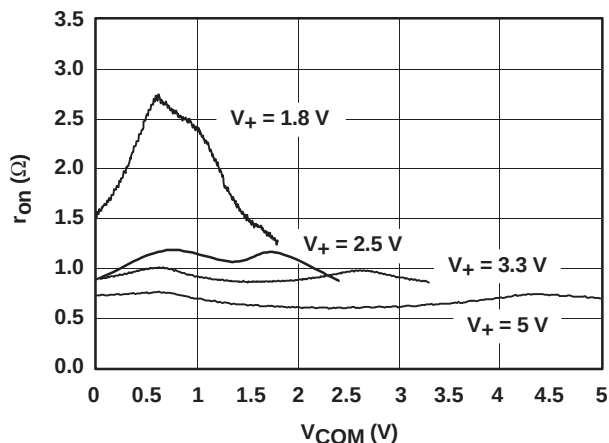

Figure 1. r_{on} vs V_{COM} ($T_A = 25^\circ\text{C}$)
Figure 1: Schematic diagram of the test setup for the 1T1C1D1S1 device. The device is shown as a square block with pins V_+ , COM, IN, NO, and GND. V_+ is connected to a positive supply. COM is connected to a load capacitor $C_L^{(1)}$ to ground. IN is connected to a logic input (2) through a resistor R_{GEN} . NO is connected to a positive supply V_{GEN} . The logic input (2) is shown as a square wave between V_{IL} and V_{IH} . The output V_{COM} is shown as a square wave between V_{IL} and V_{IH} . A box contains the test conditions: $V_{GEN} = 0$ to V_+ , $R_{GEN} = 0$, $C_L = 1 \text{ nF}$, $Q_C = C_L \times \Delta V_{COM}$, and $V_I = V_{IH}$ or V_{IL} .